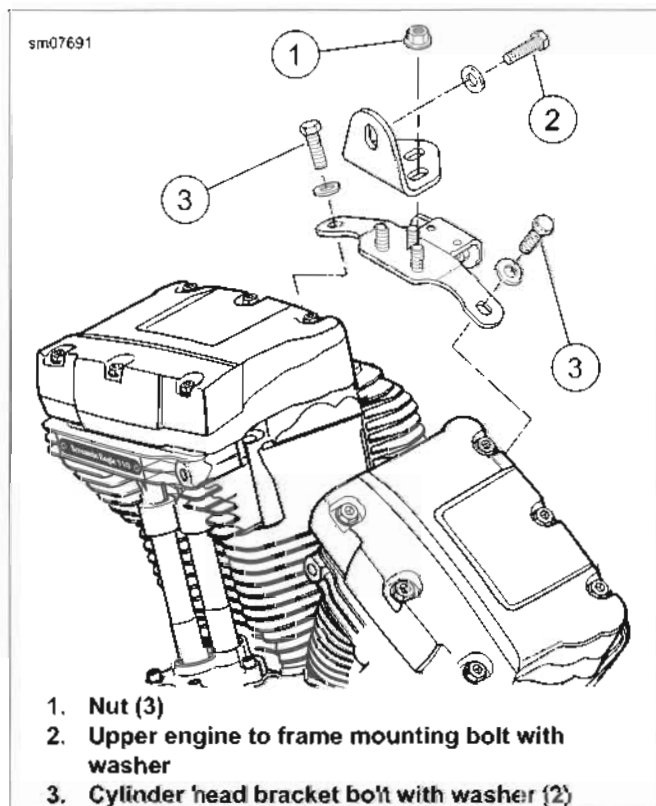

Figure 3-15. Top Engine Mount
- See Figure 3-15. Loosen nuts (1).
- Loosely install upper engine to frame mounting bolt with washer (2). Loosely install both cylinder head bracket bolts with washers (3).